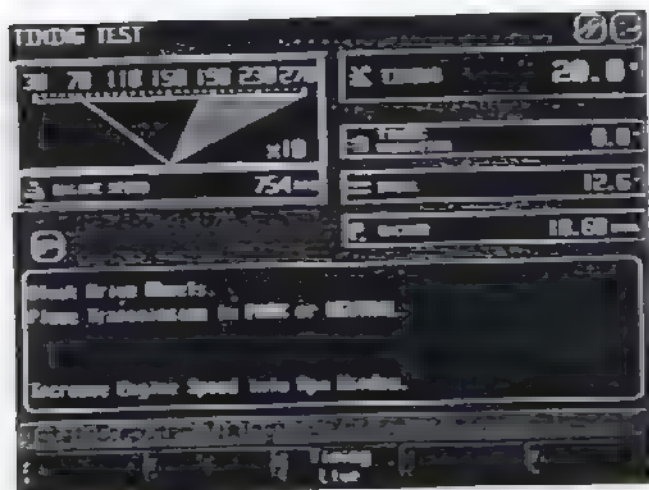

Figure 3-32
- 1 Press [F2] The *Timing System Test* screen appears (see Figure 3-32). The analyzer will test the Total Advance Timing first